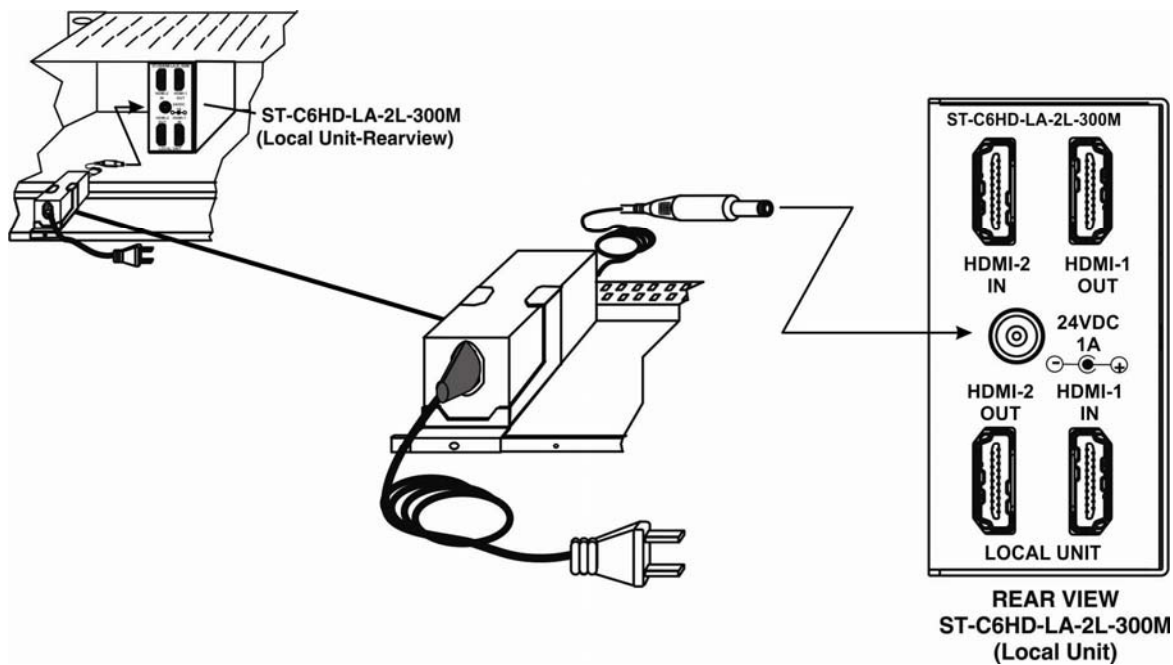

Figure 13- Connect AC adapters
2. Connect the AC adapter power connectors to the 24VDC port on **either** the Remote or Local Unit. (AC adapter shown in Figure 13)